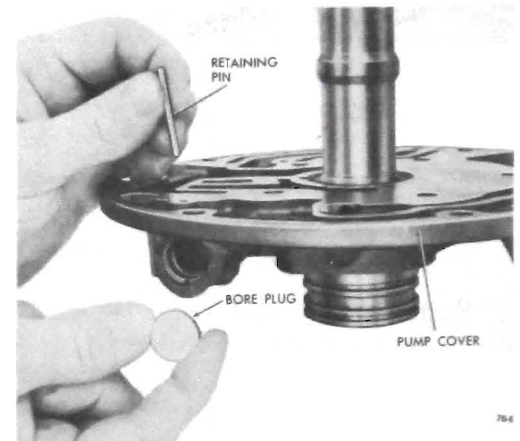

Figure 76-638
6. Install the pressure regulator valve bore plug and retaining pin into opposite end of bore. See Figure 76-638.